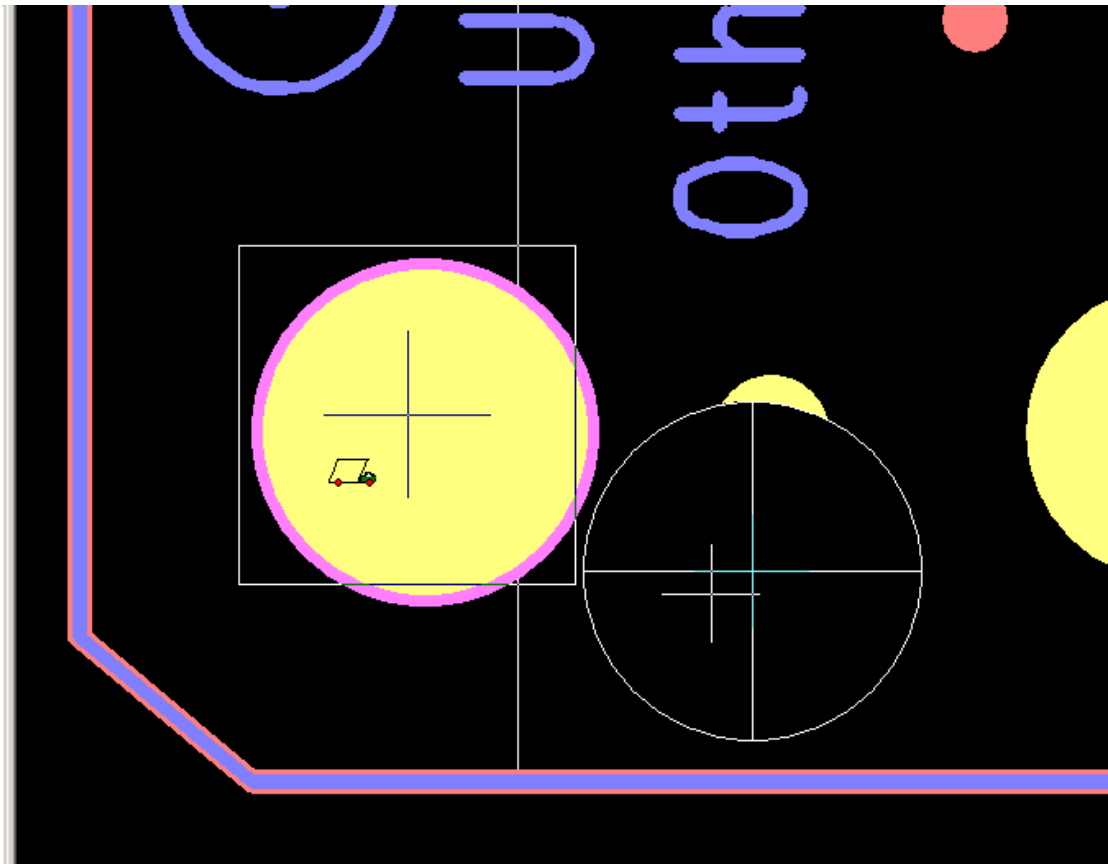

Figure 14: Drag and Drop Moving
5. With the drill layer selected zoom in to the bottom left corner of the board so that the large drill hole and the corresponding large pads are visible (see Figure 14 as a guide).
9. As you now drag the data around you will notice the extents of the entity we initially hovered over is shown along with its center. Drag the center close to the center of the pad you wish to move the drill hole to. (At any time you can press and hold to control key to Copy rather than Move. When you are close to the center (see Figure 14) you can simply release the mouse button and select from the Drop down list of options.
8. You will notice a number of things – the cursor has changed to indicate a different mode and also the Co-ordinate Summary has changed in preparation for displaying measured values (see Figure 14).